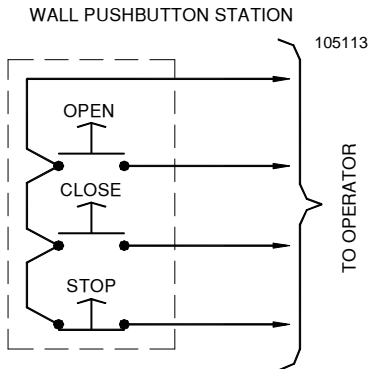
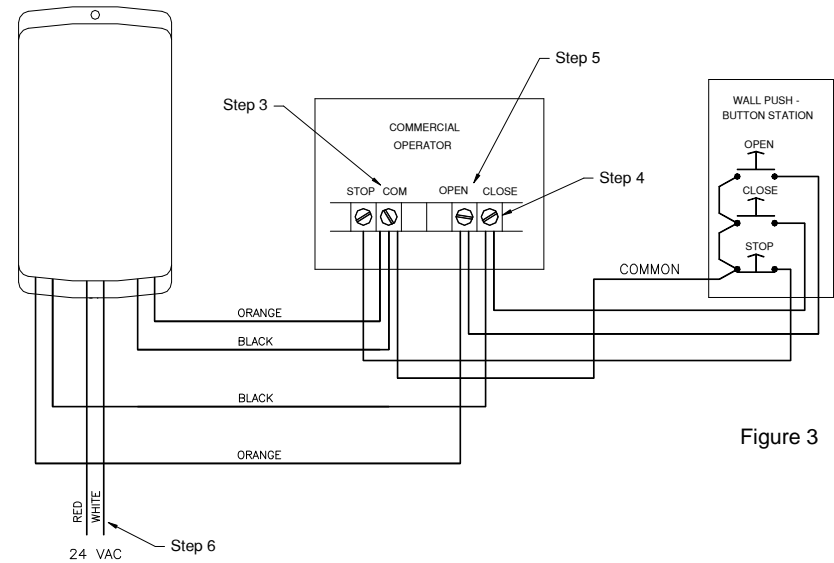

Figure 2
Figure 3
- Check the wire & connections in the STOP circuit. Refer to Figure 3.
Typical 4-wire 3-button stations are wired as shown in Figure 2. Number 18 gauge wire or heavier must be used for wiring the control stations to the door operator. Smaller gauge wire may cause operational problems, especially when multiple 3-button stations are used. For typical installations the MVP-DO receiver is mounted near the door operator, away from any high voltage conduits or steel support beams. For wiring, follow the steps below and refer to Figure 3.
3. Connect the following wires from the MVP-DO to the operator 3-button COMMON (as shown in Figure 3):